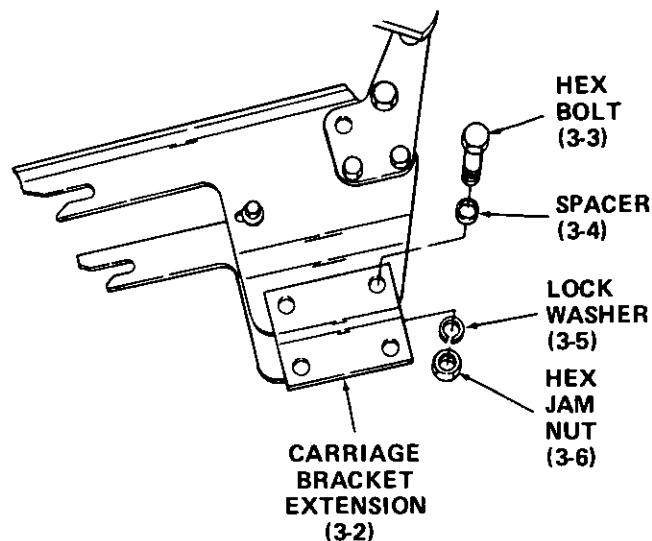

Figure 6
- b. Attach carriage bracket extensions (3-2) on undercarriage with bend toward inside as shown in Figure 6. Secure with hex bolts (3-3), spacers (3-4), lock washers (3-5) and hex jam nuts (3-6).